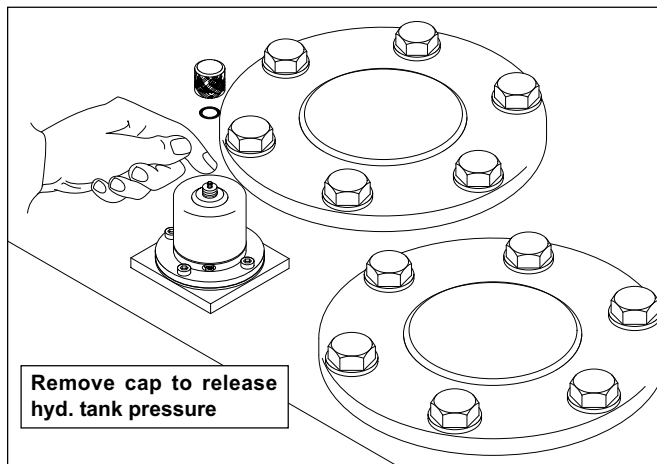

FIGURE 4.51A
1. Release hydraulic tank pressure. See Figure 4.51A.